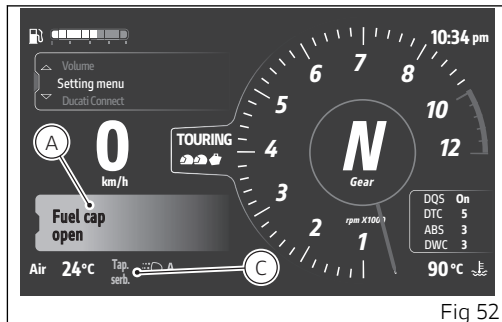
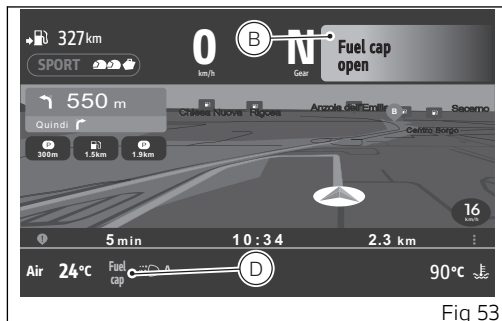

Fig 52
Fig 53
- when activated, it is displayed for the first 5 seconds in the large format (A main screen, Fig 52) (B Ducati Connect screen Fig 53);
- then it is displayed in the small format (C main screen, Fig 52) (D Ducati Connect screen Fig 53).